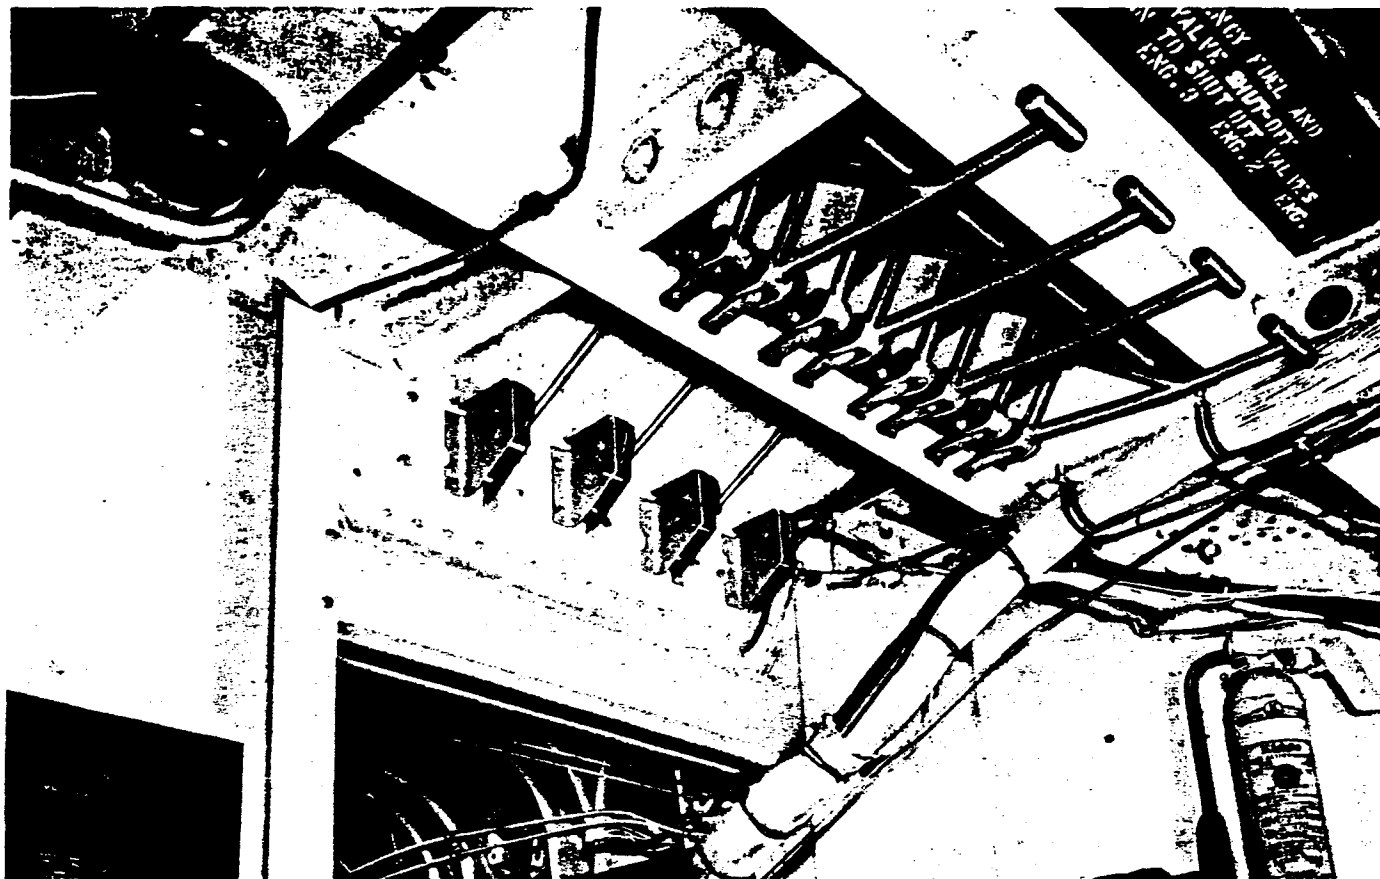

Figure 20. Emergency Fuel and Oil Shut-Off Controls
j. EMERGENCY FUEL SHUT-OFF CONTROLS. (See figure 20.)- Emergency shut-off controls are located overhead between the engineer and radio operator. Four handles, one for each engine, are operated by pulling them down as far as possible. The handles operate manual control valves and the valves are open when the handles are up. Oil shut-off controls are located adjacent to the fuel handles and when they are pulled, the fuel controls are also actuated.
c. OIL EMERGENCY SHUT-OFF CONTROLS.- Oil emergency shut-off control handles are located adjacent to the emergency fuel shut-off handles in the top of the cabin between the engineer and radio operator. When these handles are pulled down, they also actuate the fuel shut-off handles. (See figure 20.)
(10) Emergency fuel and oil shut-off controls- On. (See Section I, figure 20.)